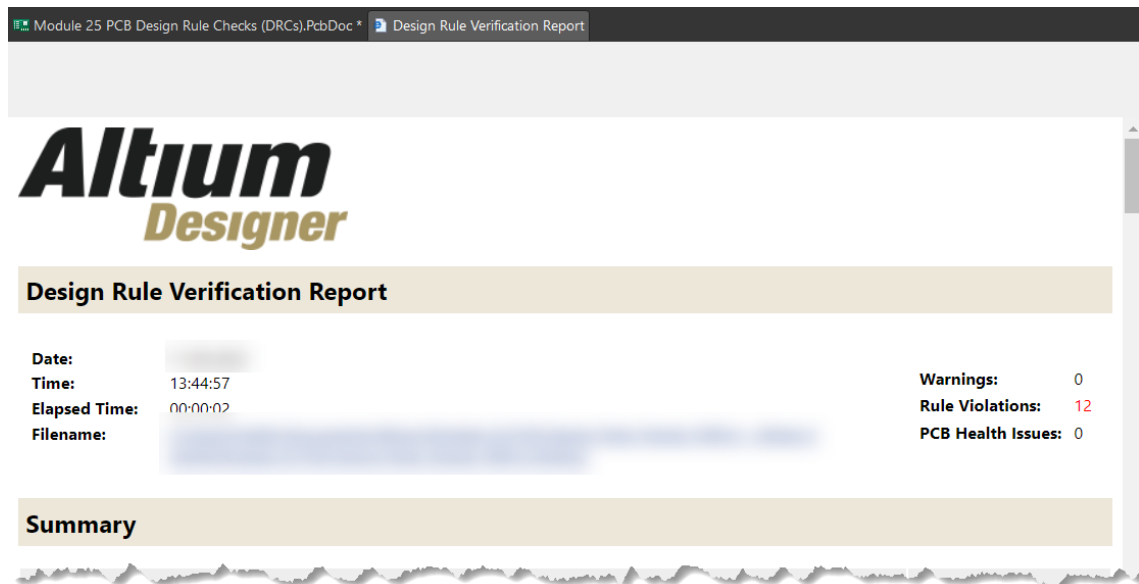

Figure 4. Rule violations in the report file
15. The Design Rule Verification Report should generate showing the number and the type of violations, as shown in Figure 4. Scroll down to the Rule Violations section to see the violated rules.